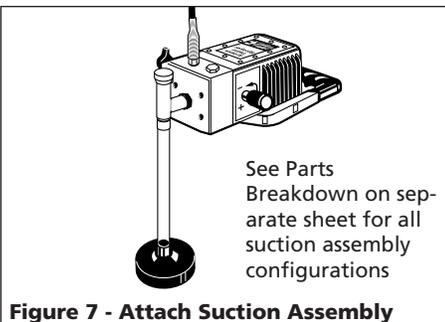

Figure 7 - Attach Suction Assembly
6. Attach Suction Assembly securely (See Figure 7) and place both suction and bypass tubes in cleaning solvent.